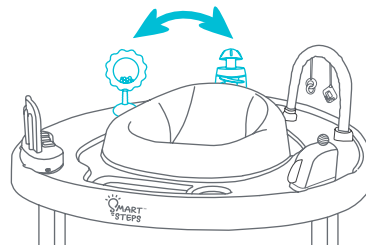

Fig. 5a
- 5 • Place toys in this order as shown. Toys must be properly attached before use (Fig. 5a).